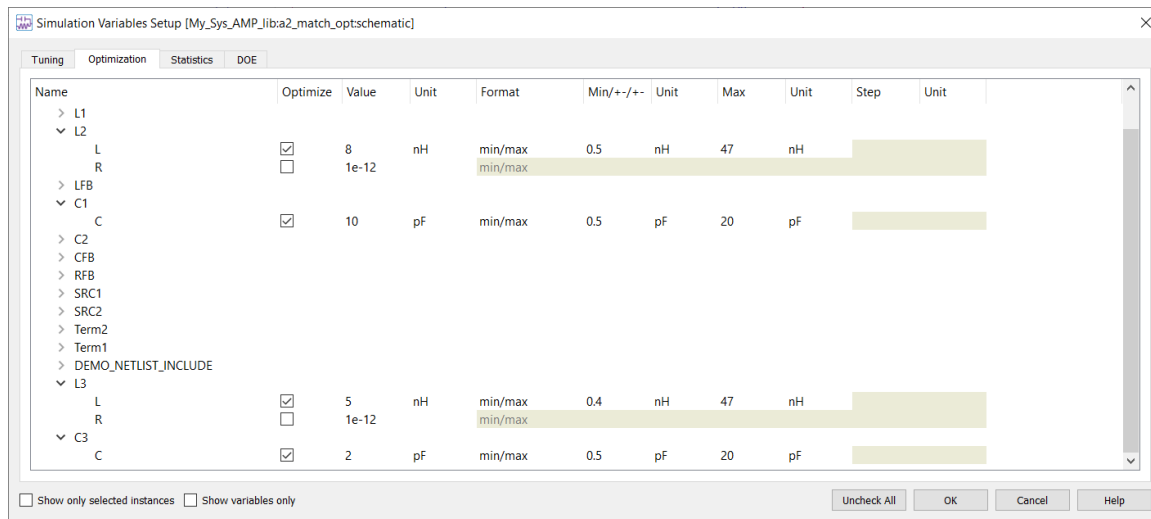

Figure 36. Simulation Variable Setup window
4. Set capacitor **C3** and inductors **L2** and **L3** to be optimized (check box) with the values shown in Figure 36. Press **OK** when complete.